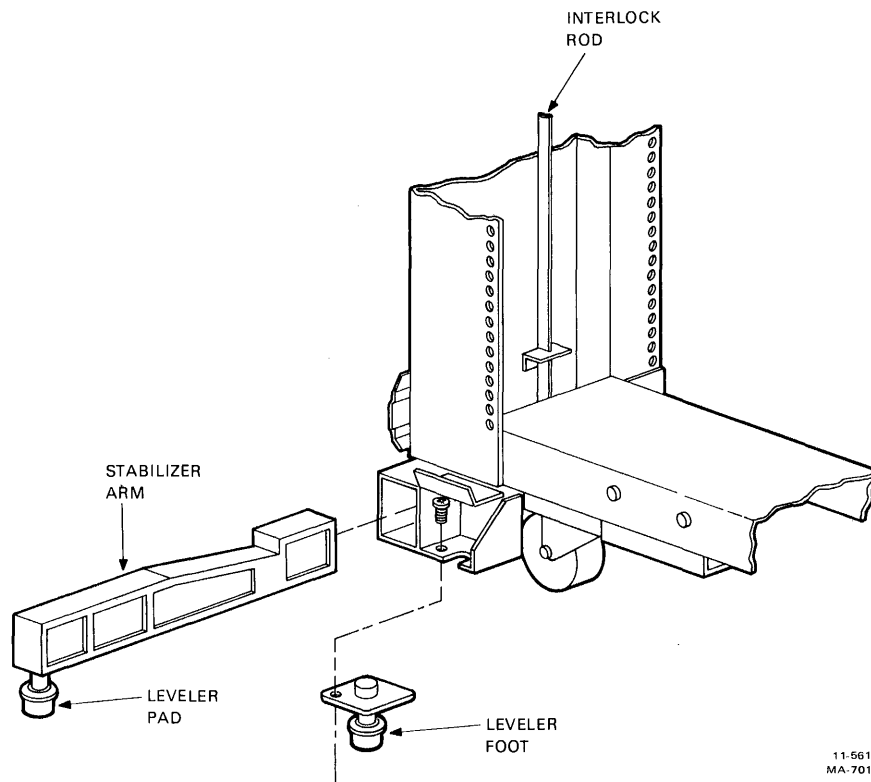

Figure 3-4 Location of Stabilizer Arm and Leveler Feet
3. Raise the interlock rods on each side of the cabinet. Remove the two stabilizer arms from the stabilizer sleeve assemblies (Figure 3-4).
6. Install the leveler feet in the lower corners of the cabinet frame (Figure 3-4).